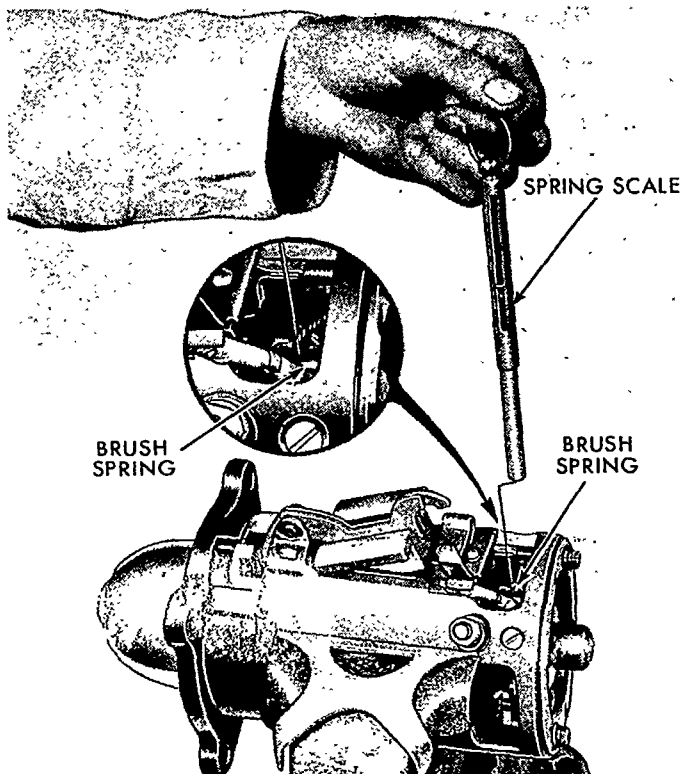

Figure 37
5. Check the brush spring tension, Figure 37. Install new springs if the tension does not meet specifications, page 71.